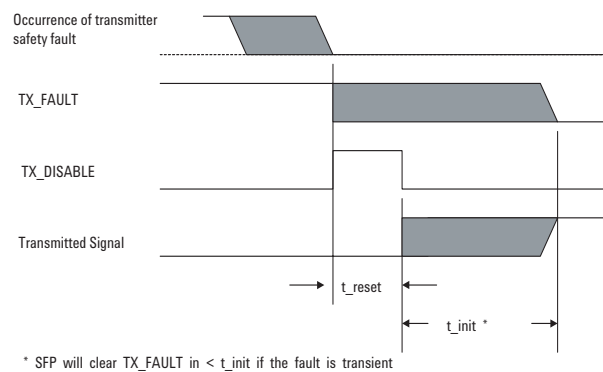

**Figure 8. Successful recovery from transient safety fault condition**
This can be (1) failure of the laser driver or (2) end-of-life of the laser. Under these conditions, the laser will be deactivated within the assert time. TX\_FAULT also requires a 4.7k-10k ohm pull-up resistor external to the module, i.e. in the host system Host\_Vcc, as shown in Figure 13. The pull-up voltage is between 2.0 V and  $V_{ccT}(V_{ccR}) + 0.3$  V. Conditions (1) and (2) are latched, and for diagnostic purposes only, may be reset by toggling TX\_DISABLE high for at least  $t_{reset}$ . See Table 11 and Figure 8.